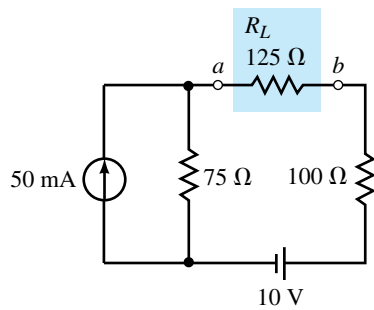

FIGURE 9-102
43. If the indicated portion of the circuit in Figure 9-102 is to be replaced with a voltage source and a $50\text{-}\Omega$ series resistor, determine the magnitude and polarity of the resulting voltage source.
44. If the indicated portion of the circuit in Figure 9-102 is to be replaced with a current source and a $200\text{-}\Omega$ shunt resistor, determine the magnitude and direction of the resulting current source.